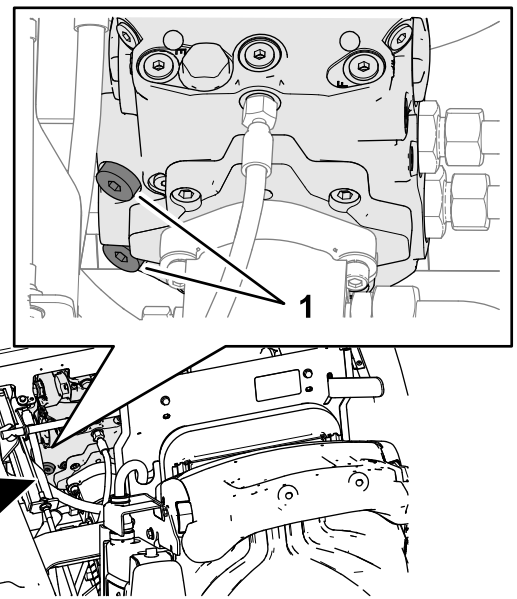

Figure 39
3. Use an 8 mm (5/16 inch) hex key to rotate the 2 socket head plugs for the transmission pump-relief valves clockwise 3 turns (Figure 39).